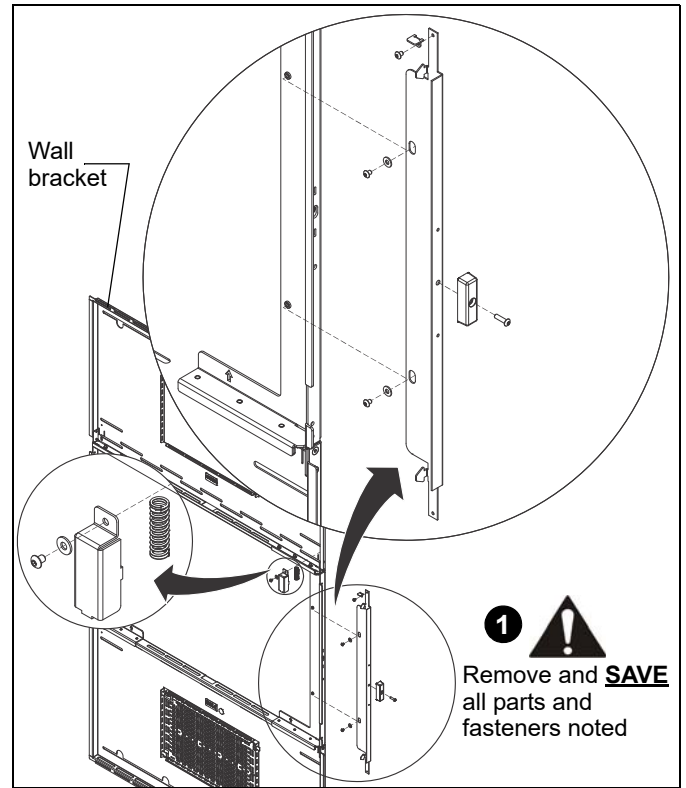

**Figure 12**
1. Cables may be placed through the center slot in the wall bracket flanges. (See Figure 12)
**IMPORTANT ! :** Cables should not be placed **OVER** the wall bracket flanges. Damage to cables may occur. (See Figure 12)